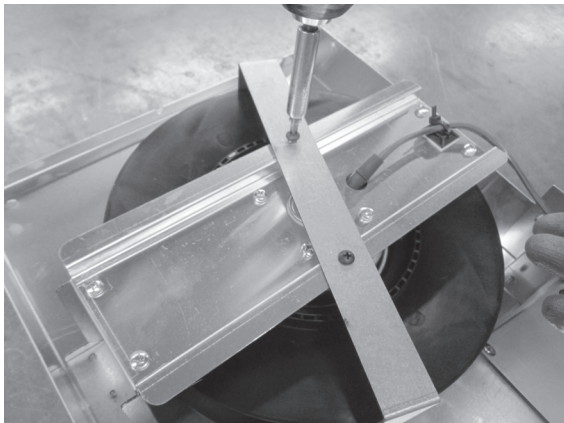

Figure 2.4
1. Remove the four screws holding the shipping bracket to the base of the HEAT-OUT-GAS. See Figure 2.4 and 2.5.